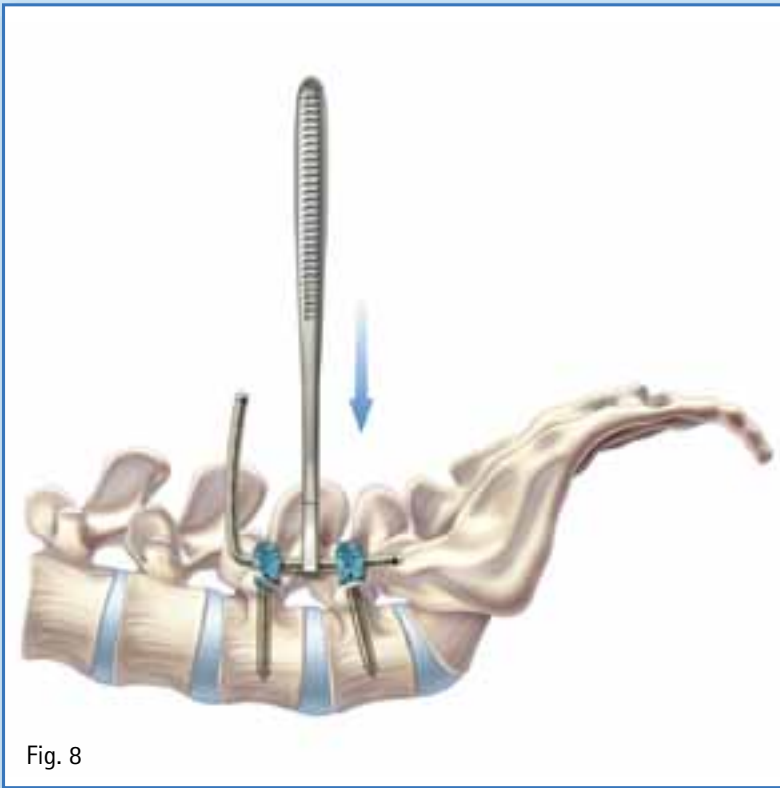

Fig. 8
- Use the flexible rod trials (FW185R) as a guide for rod bending and measuring correct rod length. (Fig. 8)